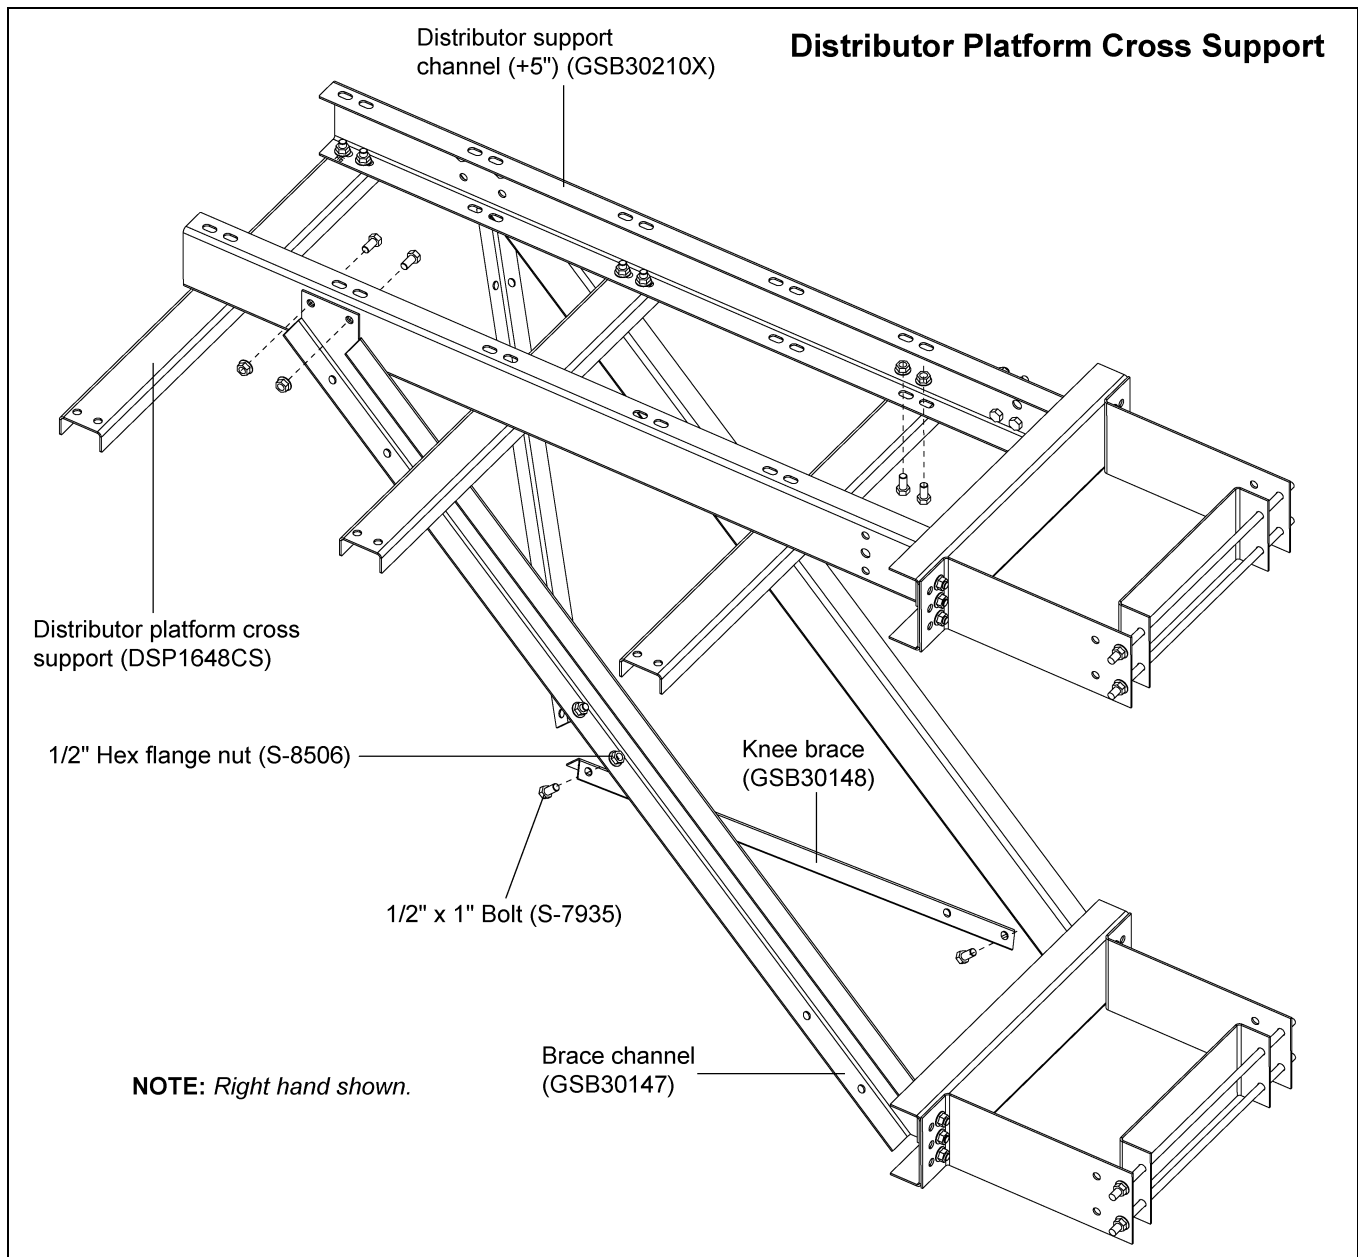

Figure 12B Distributor Platform Cross Support
1. Attach brace channels to the sides of the support channels using four (4) 1/2" x 1" bolts and nuts. Angle the knee braces across the bottom sides of the brace channels and attach using four (4) 1/2" x 1" bolts and nuts.
2. Assemble the cross supports to the bottom side of the support channels using the end and middle sets of holes on the support channels using four (4) 1/2" x 1" bolts and nuts. (See Figure 12B.)